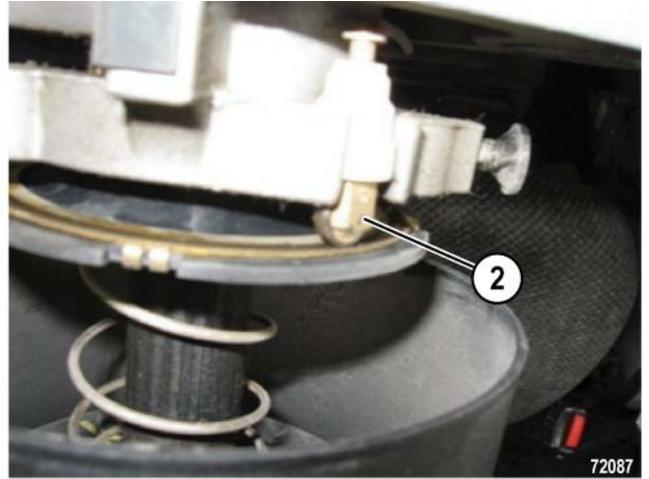

FIGURE 5-3. STEERING WHEEL RETAINER NUT
2. Use a pocket screwdriver to pry horn button (4, Figure 5-3) from steering wheel (1).
3. Disconnect horn wire (3) and set the horn button aside.
4. Remove nut (2).
1. Place steering wheel (1, Figure 5-3) into position on the steering column shaft while guiding horn wire (3) through the access hole in the steering wheel. Align the serrations and push the steering wheel onto the shaft.
2. Install nut (2). Tighten the nut to **81 ± 7 N·m (60 ± 5 ft lb)**.
3. Connect horn wire (3) to horn button (4).